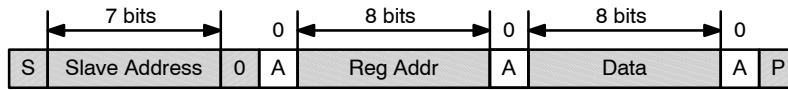
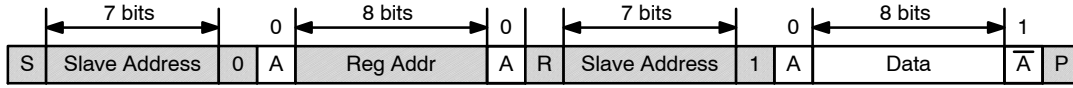

Figure 46. Write Transaction
Figure 47. Read Transaction
During a read from the FAN54015 (Figure 46, Figure 47), the master issues a Repeated Start after sending the register address and before resending the slave address. The Repeated Start is a 1-to-0 transition on SDA while SCL is HIGH, as shown in Figure 45.
**Table 21. BIT DEFINITIONS FOR FIGURE 46, FIGURE 47, AND FIGURE 48**